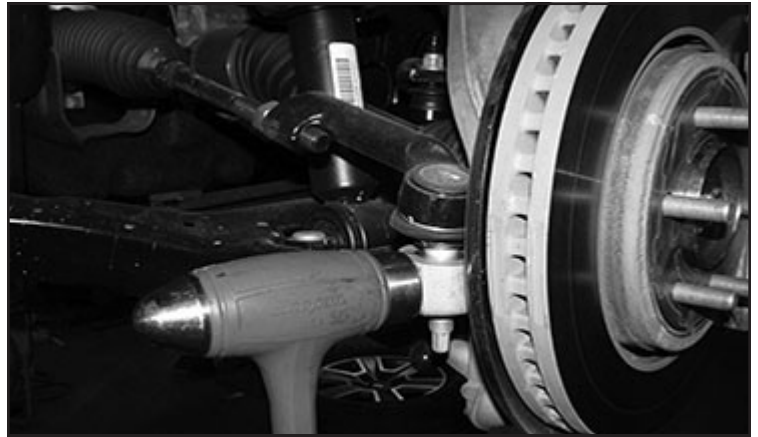

FIGURE 3 - STEP 3
3. Loosen the tie rod nut and carefully strike the knuckle with a hammer until it comes loose. Save hardware. **SEE FIGURE 3**